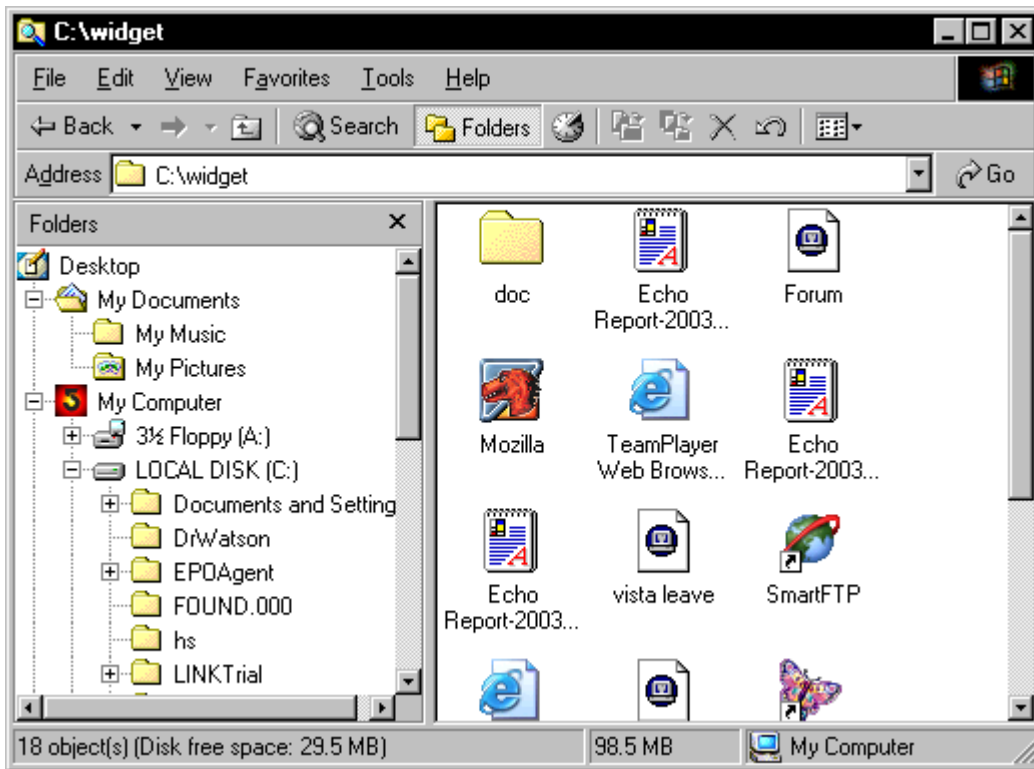

Figure 13-1
1. Using Windows Explorer, go to the parent directory of the folder that contains the folder to be shared (doc folder) (Figure 13-1).